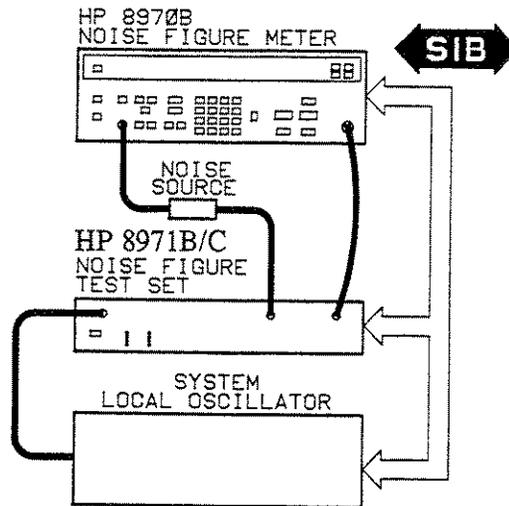

Figure 4-7. Fine Peak YIG Test Setup
13. A menu will appear. Press the **SHORT/OPEN** softkey. The HP 8757A menu will prompt you to connect a short (see Figure 4-7). Follow the directions on the menu. The short and open calibrations will only take a few milliseconds each.